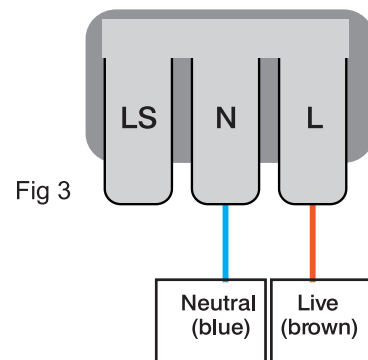

Fig 3
- For non-maintained operation please wire up connector block as shown in Fig 3